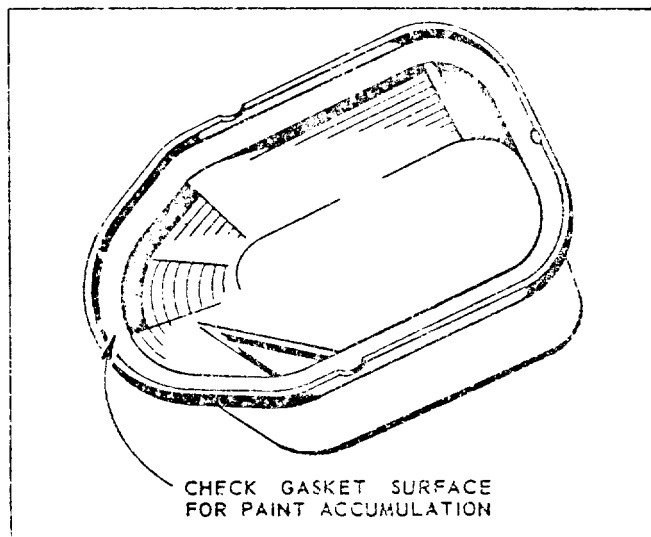

Fig. B-21
### ROCKER ARM COVERS (Fig. B-21)
1. Check gasket face surface of rocker arm cover, at the rounded end, for paint accumulation, *see Fig. B-21*. Scrape off any paint that forms a hump. Smooth scraped area with emery cloth or steel wool.